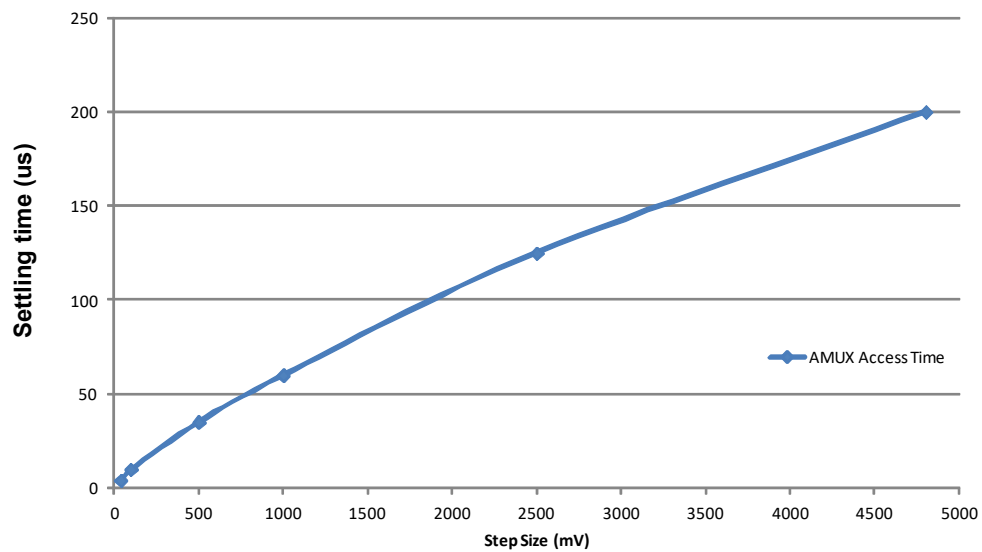

Figure 9. AMUX access time waveform
25. AMUX settling time to be within the 10 mV offset specification. AMUX_{VALID} is dependent of the voltage step applied on the input SGx/SPx pin or the difference between the first and second channel selected as the multiplexed analog output. See Figure 9 for a typical AMUX access time versus voltage step waveform.